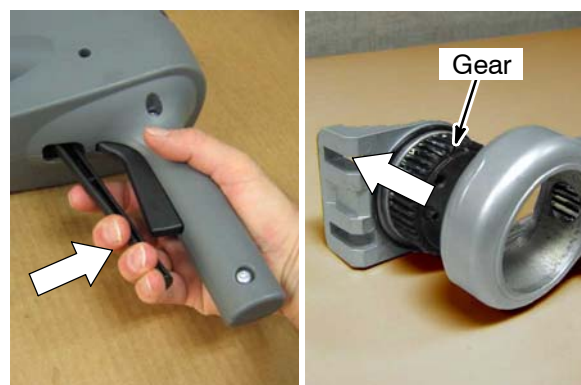

Fig. 5
5. Pull the handle adjustment lever and push the face of the gear to remove gear from handle assembly (Figure 5). Remove second O-ring from the other handle pivot bracket and set aside.